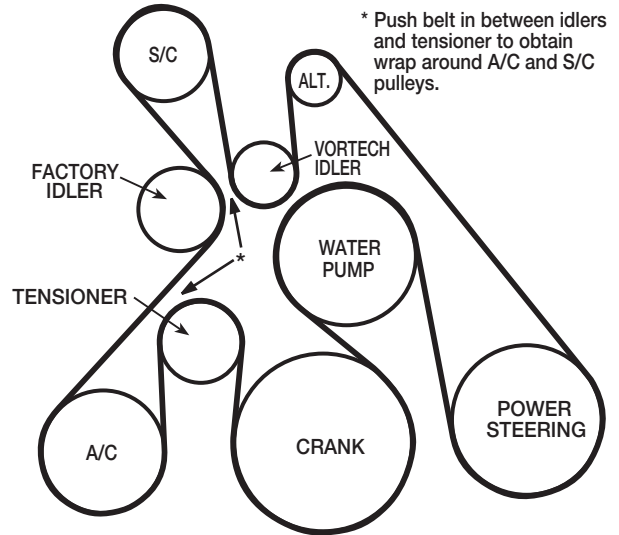

Fig. 8.1-d
- *I. Secure the oil drain hose to the mounting bracket using the supplied adel clamp, #10 bolt and washer. (See Figs. 8.1-a, 8.1-e.)